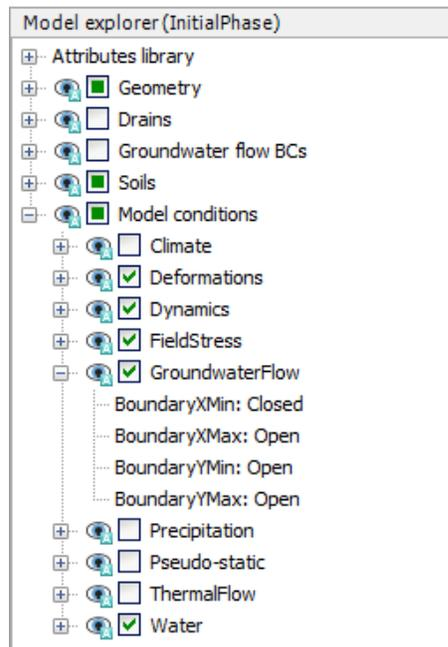

Figure 113: The boundary conditions of the problem
1. Go to the **Staged construction mode** and in the **Model explorer** expand the **Model conditions** subtree shown in Figure 113 (on page 134).